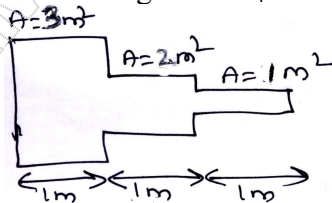

Fig.Q8(b) (12 Marks)
b. For the Smooth pipe of variable cross section as shown in Fig.Q8(b), determine the potential at junctions, the velocities in each section of pipe and the volumetric flow rate. The potential at left end  $P_1 = 10 \text{ m}^2/\text{s}$  and at right end  $P_4 = 1 \text{ m}^2/\text{s}$ . Take  $K_x = 1$ .